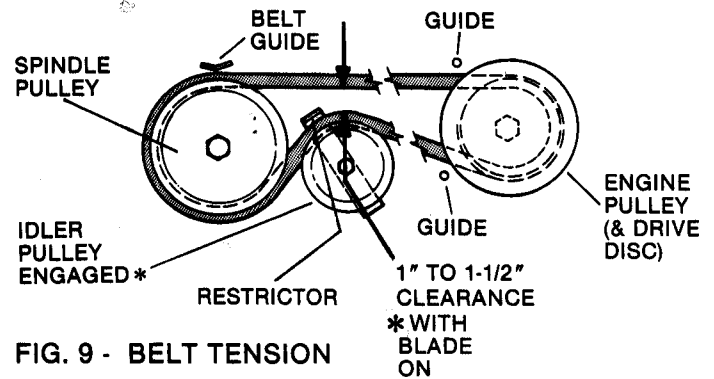

FIG. 9 - BELT TENSION
With the mower deck in #5 height position and the blade in the ON position, check the distance between the inside surfaces of the belt as shown in FIG. 9. The belt tension is adjusted by changing the "distance" between the front axle and the rear case. Loosen nut (Y) at the main tube clamp (X) beneath the main channel (under seat) and pull the front assembly FORWARD to increase belt tension until the correct amount is achieved. Then retighten nut(Y).
If belt becomes frayed, cracked, or worn, replace as follows: Remove the BELT COVER, then cut and remove the old belt. To install new belt, close fuel cap (10-C) valve. Stand mower on REAR BUMPER (14-C), shift into NEU. position, work belt between discs, shift into #5 speed and push belt over edge of engine drive disc. Work into the groove of the drive disc, then connect other end to pulleys on mower deck as follows: Loosen or remove the idler pulley, loop the belt around spindle pulley as shown in FIG. 9 and work belt between restrictor and idler pulley. Make sure locking tab on restrictor is engaged in idler arm before securing idler arm nut and bolt. Check and adjust belt tension as needed before reinstalling BELT COVER.